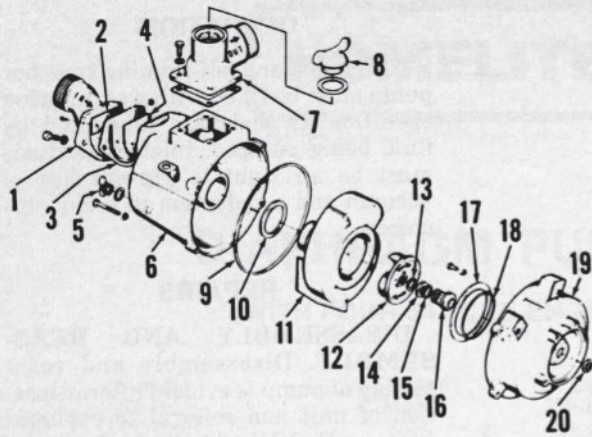
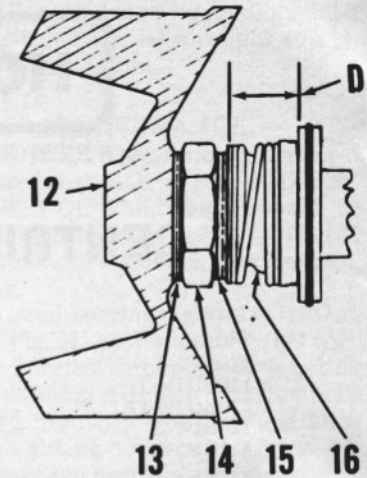

Fig. HL166—Exploded view of model 45TP3-1, 117TP3-1 or 120TP3-1 trash pump.
Fig. HL168—Seal seat to head distance (D) on models 45TP3-1, 117TP3-1 and 120TP3-1 should be 0.865-0.885 inch. Refer to text.
To properly locate impeller on engine crankshaft of models 45TP3-1, 117TP3-1 and 120TP3-1, use the following procedure: Install components (14 thru 20 Fig. HL166) on engine crankshaft, tighten nut (14) to 50 ft.-lbs., and measure distance between seal (16) seat and head as shown in Fig. HL168. Add or subtract shims (15) to obtain distance of 0.865-0.885 inch. Install impeller (12) and sufficient number or